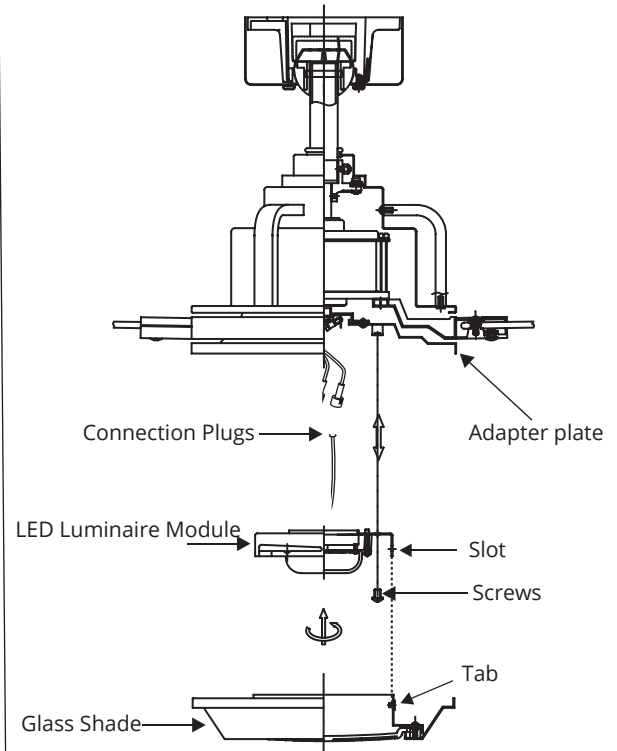

FIGURE 19
2. Raise and hold the LED luminaire module close to the adapter plate and proceed to secure the wire connections. Connect the white wire connector from the luminaire module to the white wire of the fan. Follow the same procedure with the black wire connectors. (Fig. 19)
3. Tuck connections neatly into adapter plate. Place the luminaire module key holes over the 2 screws previously loosened from the adapter plate. Turn luminaire module until it locks in place at the narrow section of the key holes. Secure by tightening the 2 screws previously loosened and the one previously removed. (Fig. 19)